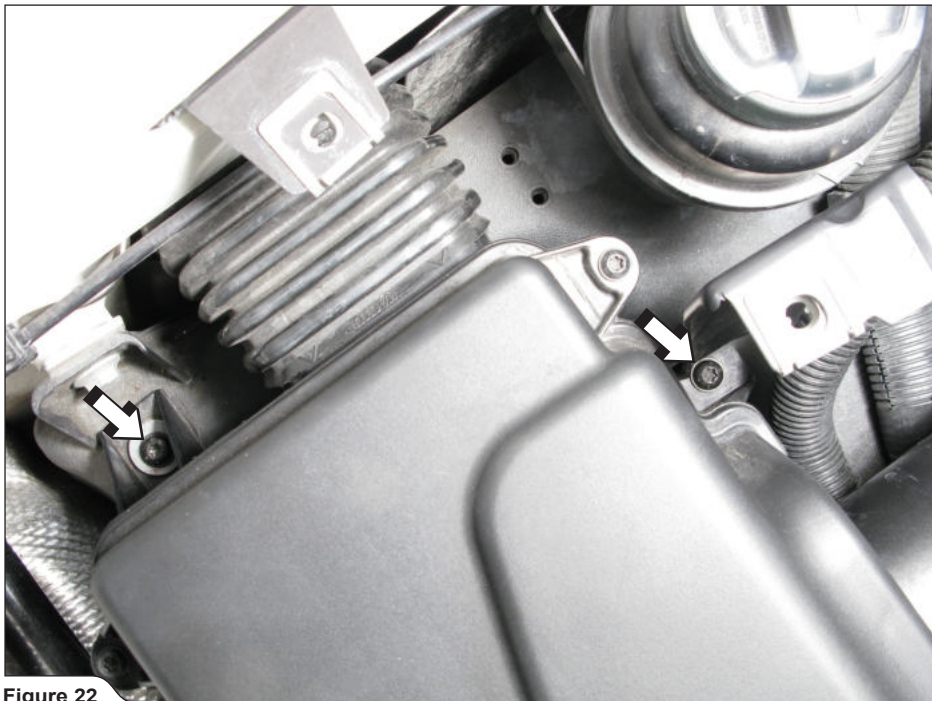

Figure 22
15. Unscrew the marked bolts on both sides of the air box and carefully remove the air box out of the engine compartment (Figure 22).